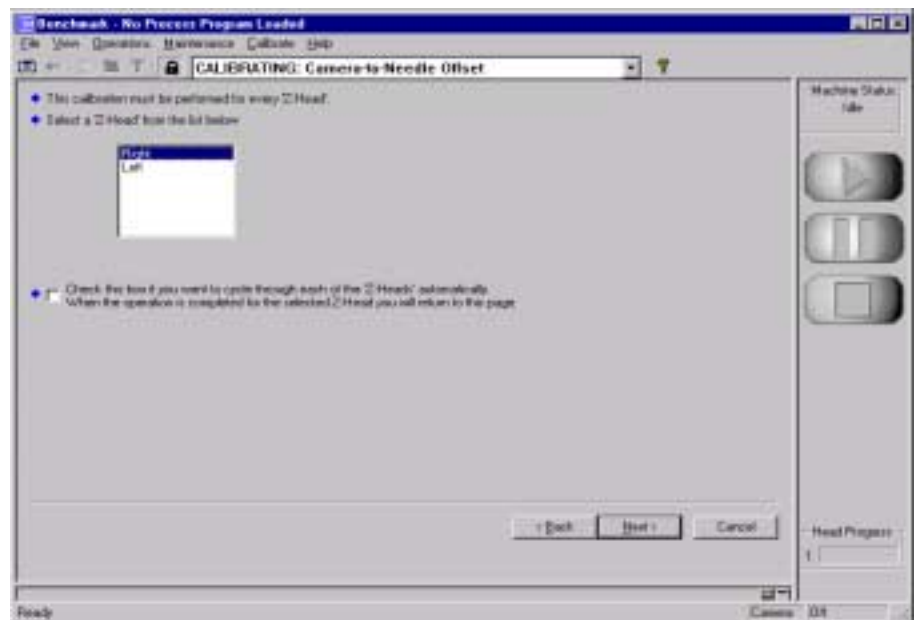

Figure 6-8
2. Read the on-screen notes and select the **Next >** button. A selection box is displayed in the **Camera-to-Needle Offset** screen. See Figure 6-8.